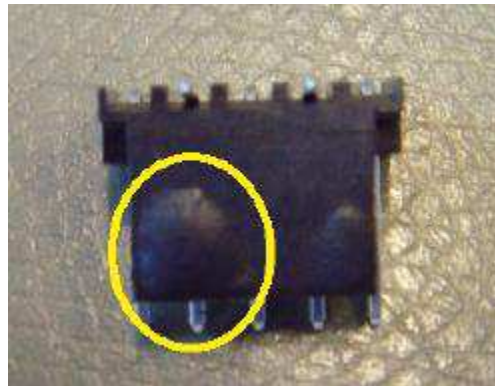

Figure 2
- Updated Paragraph 3.2.B and added Figure 2.
When exposed to atmospheric environments for prolonged periods of time, deformation of the plastic during soldering is possible. To prevent plastic deformation, bake in oven at 85°C for 4 hours prior to soldering. Deformation not in the mating area is not detrimental to product performance. See Figure 2 for image of allowable deformation.